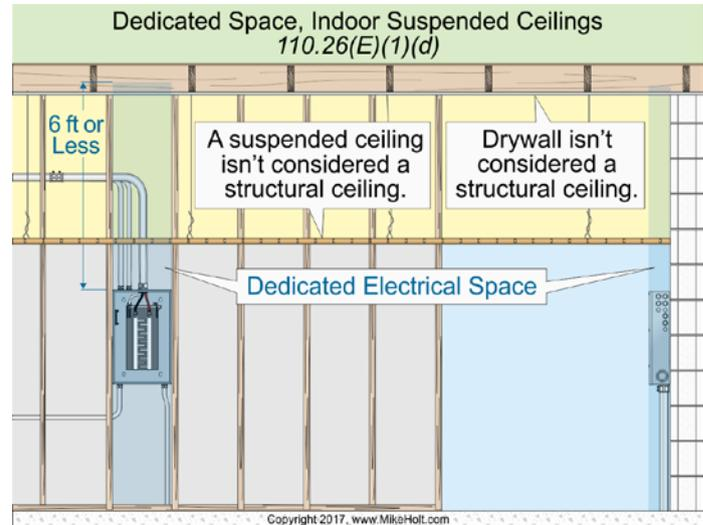

Figure 110-48
**(d) Suspended Ceilings.** A dropped, suspended, or similar ceiling isn't considered a structural ceiling. Figure 110-48
**(2) Outdoor.** Outdoor installations must comply with the following: